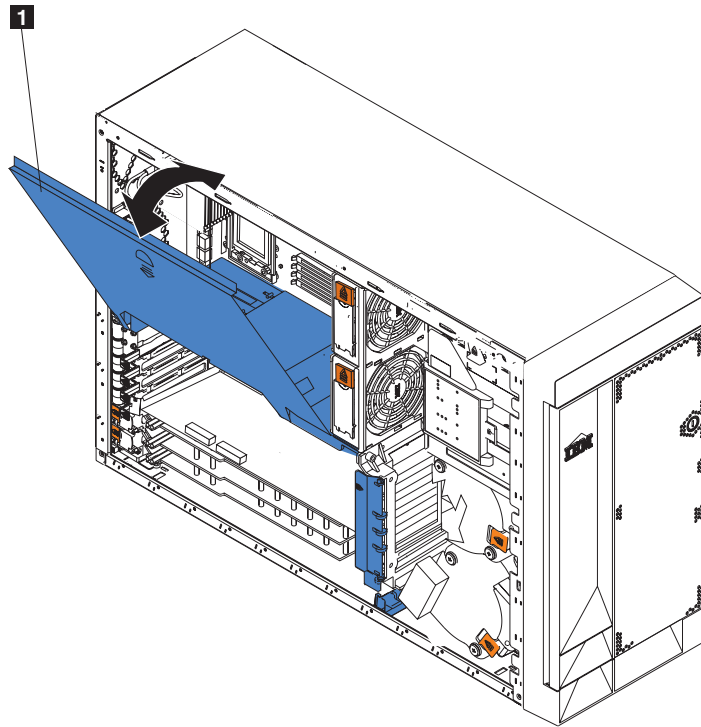
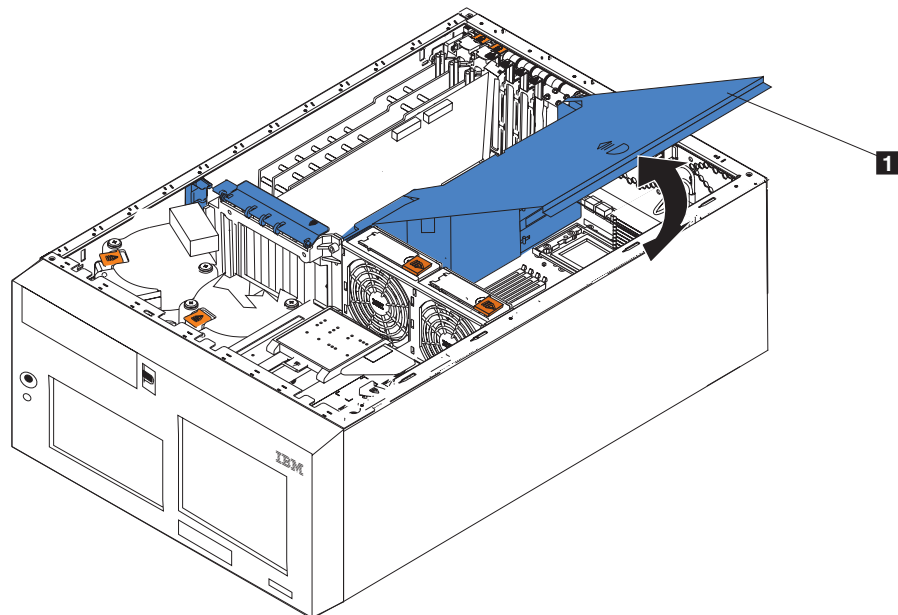

Figure 81. Opening the air-baffle assembly cover (Model 25T)
Figure 82. Opening the air-baffle assembly cover (Model 25T with the rack-mount conversion feature)
4. Open the cover on the air-baffle assembly as shown in Figure 81 and Figure 82.
3. Open the cover on the air-baffle assembly. See Figure 81 on page 151 and Figure 82 on page 151 for an illustration.
3. Open the cover on the air-baffle assembly. (see Figure 81 on page 151 and Figure 82 on page 151).